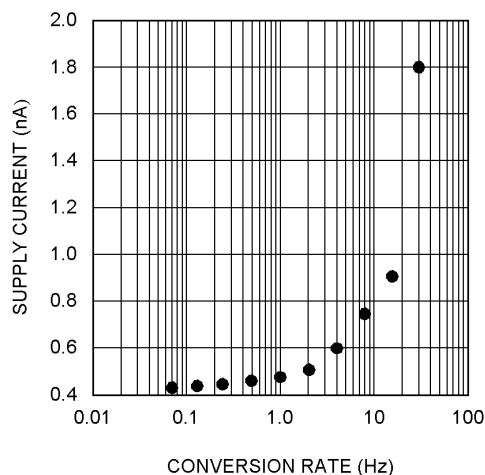

Figure 3. Conversion Rate Effect on Power Supply Current
The LM90 takes approximately 31.25 ms to convert the Local Temperature (LT), Remote Temperature (RT), and to update all of its registers. Only during the conversion process the busy bit (D7) in the Status register (02h) is high. These conversions are addressed in a round robin sequence. The conversion rate may be modified by the Conversion Rate Register (04h). When the conversion rate is modified a delay is inserted between conversions, the actual conversion time remains at 31.25ms. Different conversion rates will cause the LM90 to draw different amounts of supply current as shown in Figure 3.